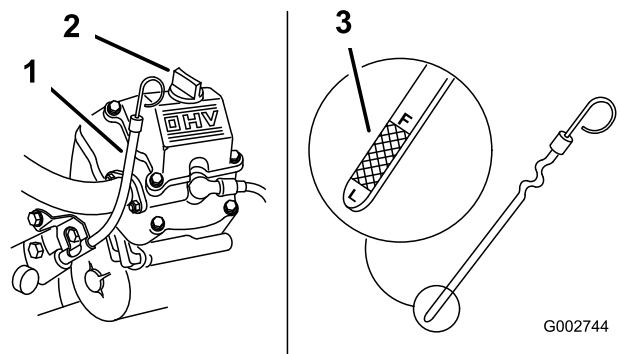

Figure 36
9. Slowly pour approximately 80% of the specified oil into the filler tube (Figure 36).